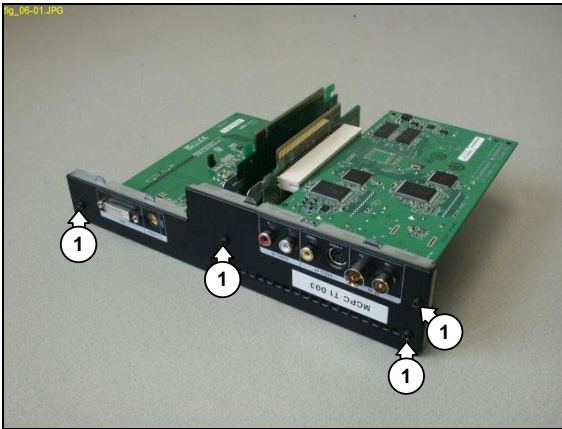

Figure 12.7-1
3. Remove the 4 mounting screws (1) from the riser card subassembly backplate. See Figure 12.7-1.